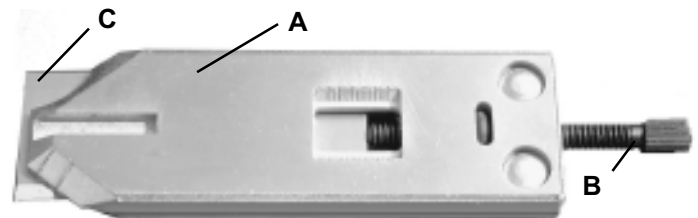
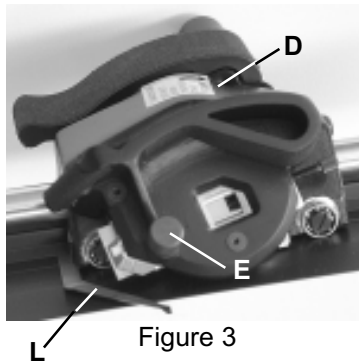

Figure 1
Figure 3
1. Insert a **Blade (C)** in the bevel cutting **Magazine (A)** as shown in Figure 1. The **Blade Extension Screw (B)** should be adjusted so the **Blade (C)** penetrates about 1/3rd the thickness of a slip sheet under the mat being cut. The blade should always rest against the **Blade Extension Screw (B)**, and the **Magazine (A)** must be fully inserted in the **Cutting Head (D)**. Tighten its **Locking Knob (E)** firmly. See Figure 3.
3. The **Sight Gage (L)** shown in Figure 3 is used to control the start and end of cut when using pencil lines drawn on the back of the mat. It is held in place on the **Cutting Head** with a magnet and can be removed and set aside when not being used. The use of this feature is explained on the following page.